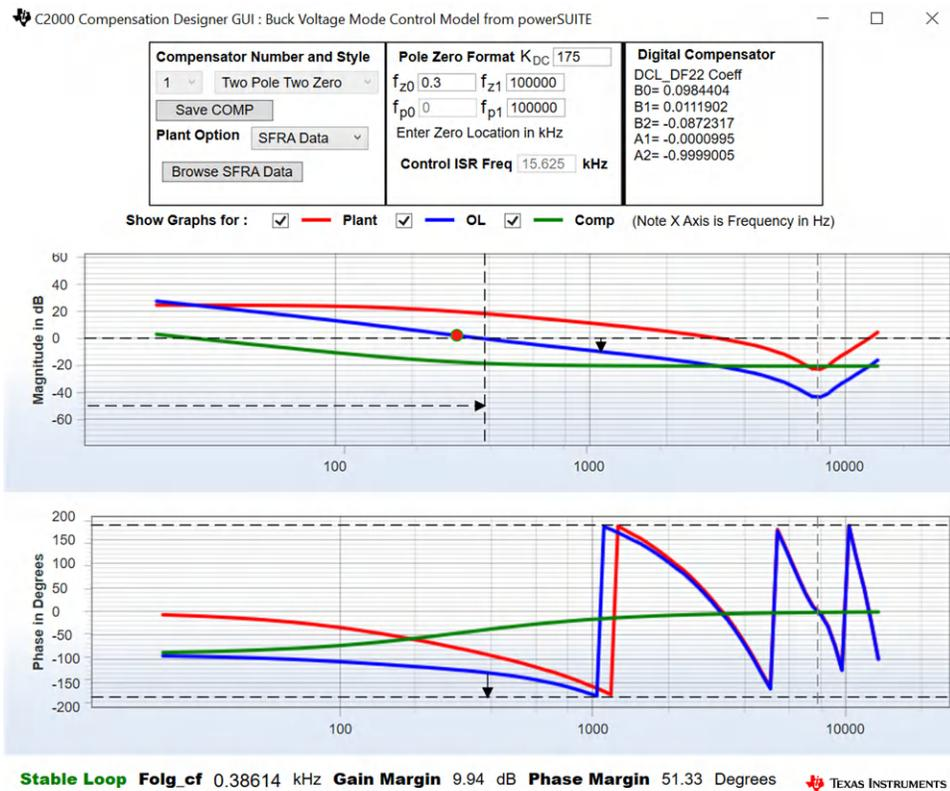

Figure 3-16. Tuning Current Loop Using Compensation Designer
- Figure 3-16 shows compensation parameters for the Current Loop.